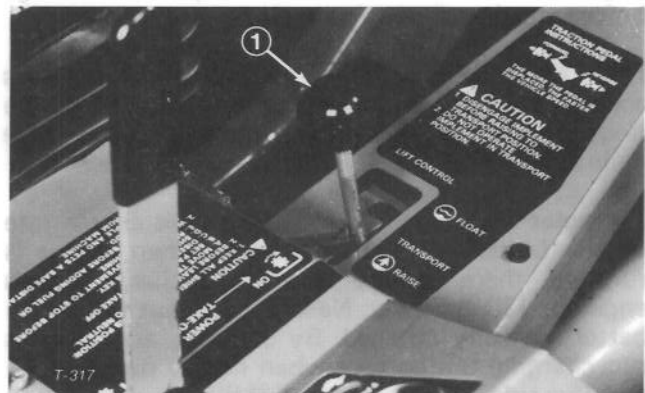
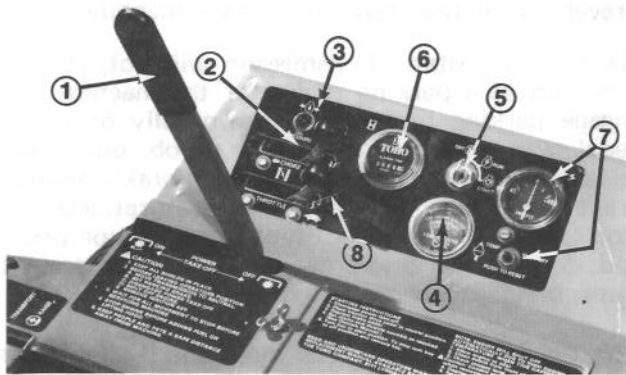

Figure 21
Figure 22
Lift Lever (Fig. 21) — The hydraulic lift lever has three positions; FLOAT, TRANSPORT and RAISE. To lower implement to the ground, move lift lever forward into notch, which is the FLOAT position. The FLOAT position is used for operation and also when machine is not in operation. To raise implement, pull lift lever backward to the RAISE position. After implement is raised, allow lift lever to move to the TRANSPORT position. Normally, implement should be raised when driving from one work area to another, except when descending steep slopes.
PTO Lever (Fig. 22) — The PTO lever has two positions; ON, engage and OFF, disengage. Slowly push PTO lever fully forward to ON position to start the implement or cutting unit blades. Slowly, pull lever backward to OFF position to stop implement operation. The only time PTO lever should be in the ON position is when implement or cutting unit is down in operating position.
Oil Pressure Warning Light (Fig. 22) — The oil pressure warning light will glow and a buzzer will sound when oil pressure in engine drops below a safe level. If low oil pressure ever occurs, stop engine and determine the cause. Repair the damage before starting the engine again.
Hour Meter (Fig. 22) — The hour meter registers accumulated hours of engine operation. Use the hour meter to determine intervals for service maintenance and lubrication.
Ammeter (Fig. 22) — Ammeter shows charge rate of the battery by the alternator. When engine is running, there usually is a slight charge, unless engine is idling slowly. Needle will point to 0 when battery is fully charged. By contrast, alternator is not charging the battery when needle points to (-) negative side of ammeter, and if this happens, repair the charging system to prevent discharge of the battery.
Temperature Switch/Gauge and Reset Button (Fig. 22) — The temperature switch/gauge registers the temperature of the coolant in the cooling system. If temperature of coolant gets too high the engine will shut off automatically. When this happens, rotate ignition key to OFF. Automatic shut-off of the engine usually results from debris on front of screen or radiator, which reduces air flow. After cleaning outside of screen and radiator or repairing some other damage, press the reset button and start the engine.
Ignition Switch (Fig. 22) — The ignition switch, which is used to start and stop the engine, has three positions; OFF, RUN and START. Rotate
Choke (Fig. 22) — To start a cold engine, close carburetor choke by moving choke control fully forward. After engine starts, regulate choke to keep engine running smoothly. As soon as possible, open the choke by pulling it backward.
Throttle (Fig. 22) — Throttle is used to operate engine at various speeds. Moving throttle forward increases engine speed — FAST; backward decreases engine speed — SLOW. The throttle regulates the speed of the cutter blades or other implement components and, in conjunction with traction pedal, controls ground speed of the traction unit.
1. Insure parking brake is set, PTO lever is in OFF position (Fig. 22) and lift lever is in TRANSPORT or FLOAT position (Fig. 21). Remove foot from traction pedal and assure it is in neutral.
2. Move throttle control (Fig. 22) to 1/4 - 1/3 open position.
3. To start engine, move choke lever (Fig. 22) fully forward.
4. Insert key into ignition switch (Fig. 22) and rotate it clockwise to START position. Hold key in START position for a few seconds to energize ignition system. Release key immediately when engine starts and regulate choke to keep engine running smoothly.